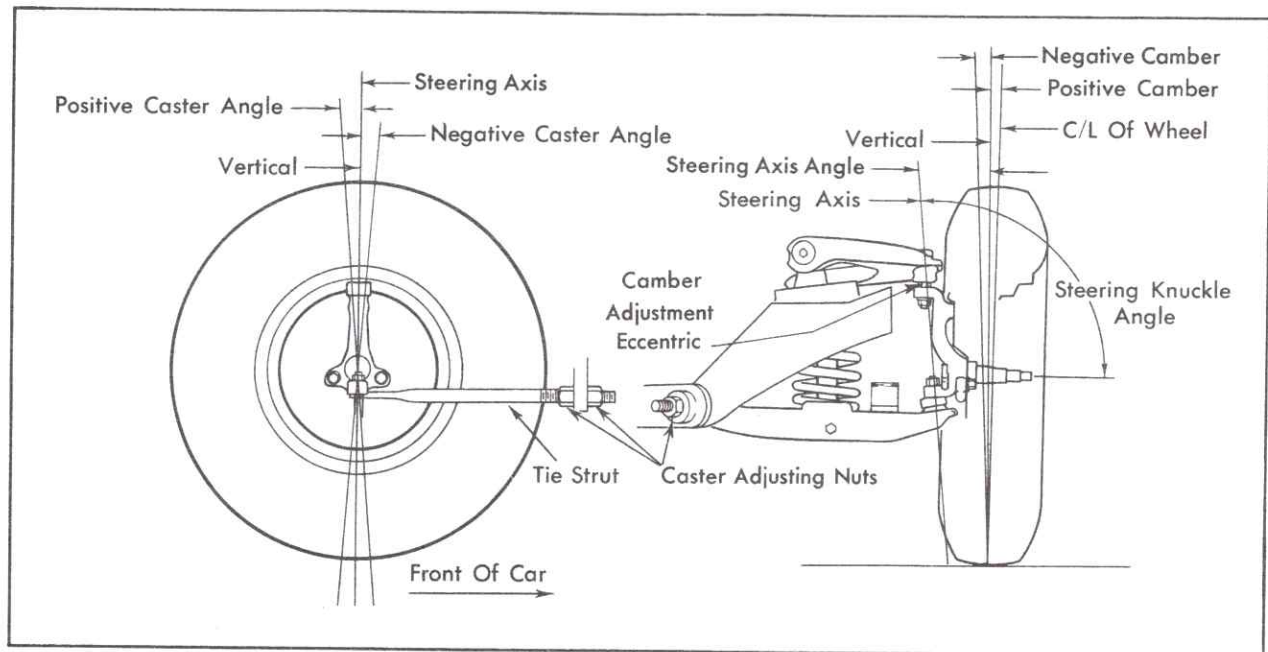

Fig. 3-2 Elements of Front Wheel Alignment
6. Check caster and camber, Fig. 3-2.